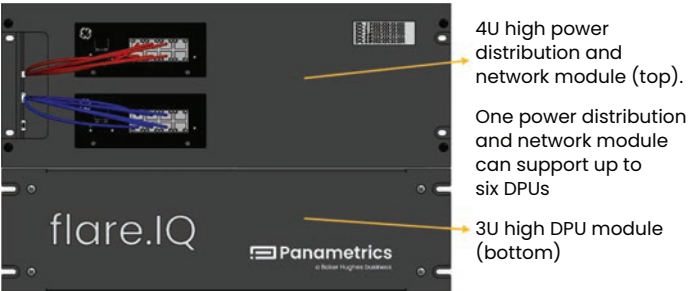

Figure 2: Front view of rack mounted control equipment
The system hardware includes two 19" rack mounting sheet metal modules that house compact fanless digital processing units (DPU), redundant power supplies, a pair of ethernet switches and other power distribution equipment and cables. The top power distribution and networking module is shared with up to six DPU modules installed in the bottom module (figure 2). A single DPU module is configured to control a single flare stack while a second DPU module loaded with identical firmware and settings provided for redundancy. However, a single DPU is adequate for digital verification of a single flare flow meter given the relatively low frequency of this procedure. For example, if a customer site has two flare stacks that need to be controlled, one power distribution and network (top) module and a bottom module with four (4) DPUs installed would be required. The power distribution and networking module weighs 8.65 lbs. (3.92 kg) and the bottom DPU module with the maximum number (6) of DPU's installed weighs 8.55 lbs. (3.88 kg).